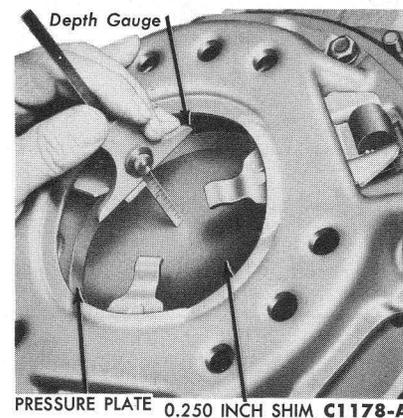

FIG. 7—Release Finger Height Check
3. Use a depth gauge and check the height of each finger (Fig. 7). If a height difference of 0.031 inch or more between any two fingers is noted, replace the pressure plate assembly.